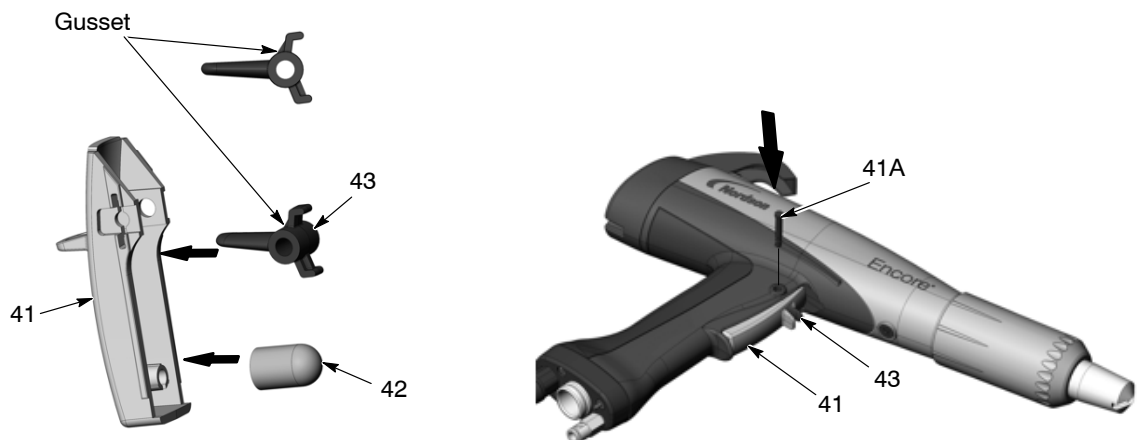

Figure 6-13 Reinstalling the Trigger and Axle
7. See Figure 6-13. Install the purge trigger (43) into the spray trigger (41) with the gusset oriented upward as shown. **Do not install the purge trigger upside down.**
8. Verify that the actuator (42) is installed over the post.